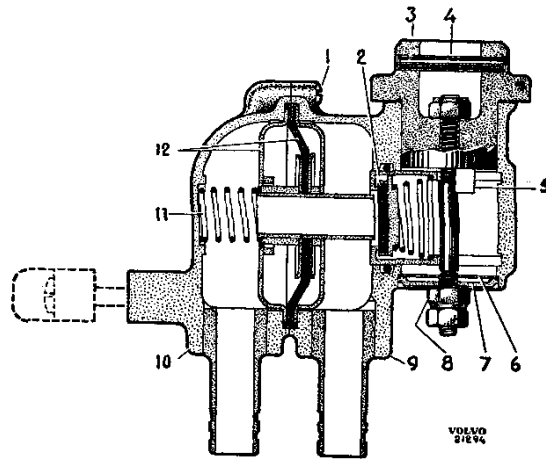

Fig. 25. Valve.
1. Unscrew the nut (8) and lift up the flange head carefully (3) so that the filter (6) is not damaged. Remove the spring washer (7). See Fig. 25.
2. Remove the four screws (1) and separate the valve head (10) from the valve housing (9).
3. Remove the spring (11) which regulates the air pressure to the vacuum cylinders and take out the diaphragm (12).
4. Lift out the plunger (2) with the valve plate and spring.